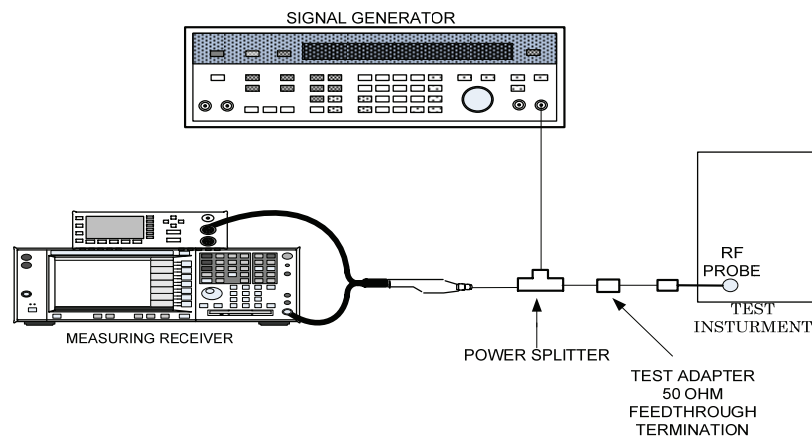

Figure 2. Frequency response - equipment setup.
(6) Connect equipment as shown in figure 2.